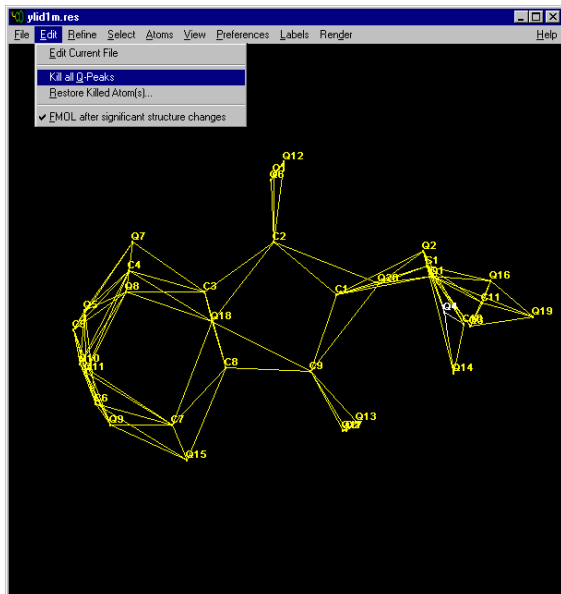

Figure 6-29. Kill all Q-Peaks
33. You may delete them with the Edit > Kill all Q peaks command (Figure 6-29).